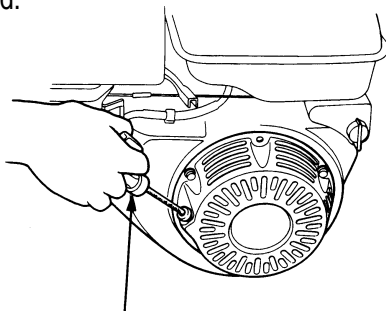

Figure 10. Starter Grip
- Pull the **starter grip** (Figure 10) lightly until you feel resistance, then pull briskly. Return the starter grip gently. Push the clutch lever forward, toward the tow tongue end of the mixer. When engine starts adjust throttle lever so that paddle shaft inside mixer rotates between 30 - 40 RPM's. The number of RPM's will vary depending on engine type and load.
- Place the electric motor's **start/stop** switch (Figure 10) in the **OFF** position.